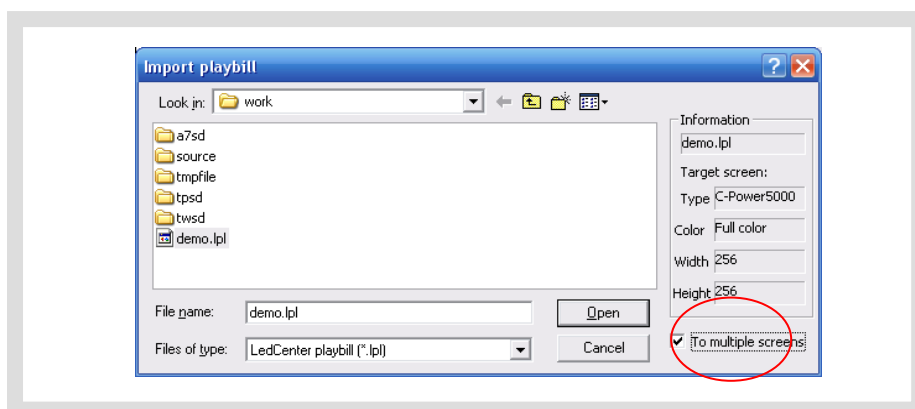
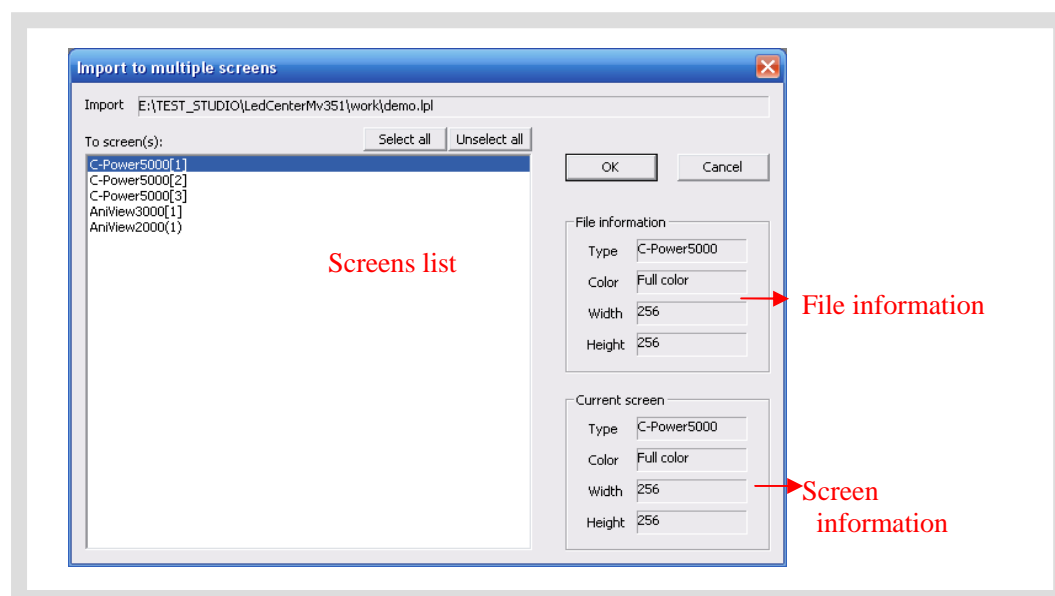

Figure53 Import playbill
Figure54 Import to multiple screens
- 2) In the dialog box “Import playbill” (as shown in Figure53), select the program file (\*.lpl) to be imported. The “Information” at right side of the dialog box shows the screen parameters of the program file. Confirm the imported program consistent with the parameters of current screen.
- 3) Import to multiple screens: if select the option “To multiple screens” as shown in Figure53, a dialog box “Import to multiple screens” as shown in Figure54 pops up after a file is selected. Hold Ctrl key and click the screen list, user can select multiple screens, and then import the program file to multiple screens which is consistent with the file information.